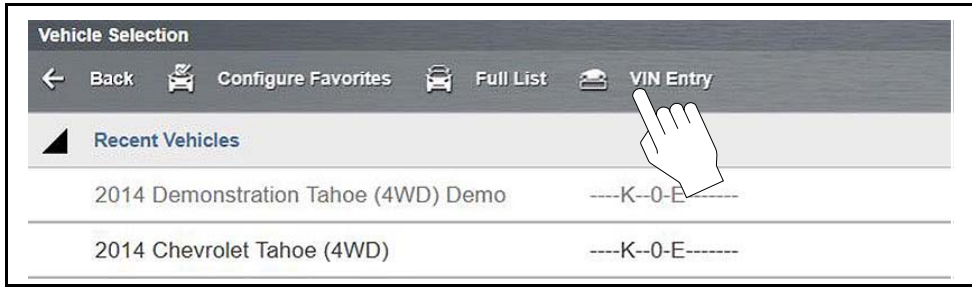

Figure 5-3
2. From the vehicle selection page, select **VIN Entry** from the upper toolbar (Figure 5-3).